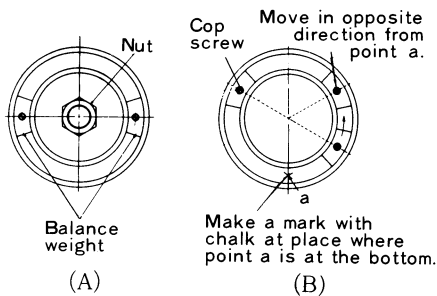

Fig. 8
2. At first, as shown in Fig. 8 (A), place the balance weight in a symmetrical position and tighten it. By slowly rotating the grinding wheel manually and releasing the hand, the grinding wheel will soon come to a full stop.
3. Accordingly, shift the balance weight position and tighten it as shown in Fig. 8 (B). Again, rotate the grinding wheel manually.